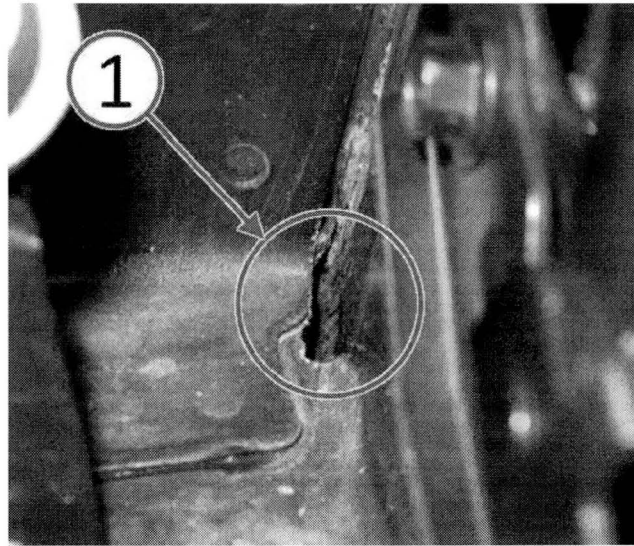

Fig. 4 Verify Metal Tab Is Not Contacting Inner Body Panel
5. Ensure that the lower plenum sheet metal tab has been position away from and is not touching the body inner panel (Fig. 4).